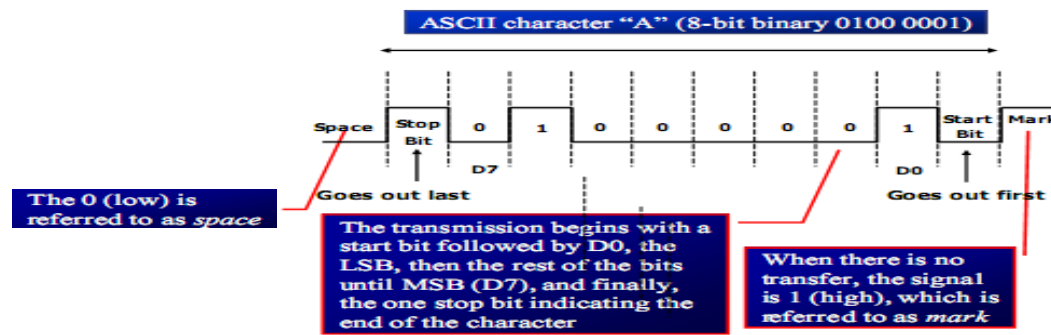

Fig:4.6.3 Asynchronous data format.
- The data asynchronous data framing format is as shown in below figure 4.6.3